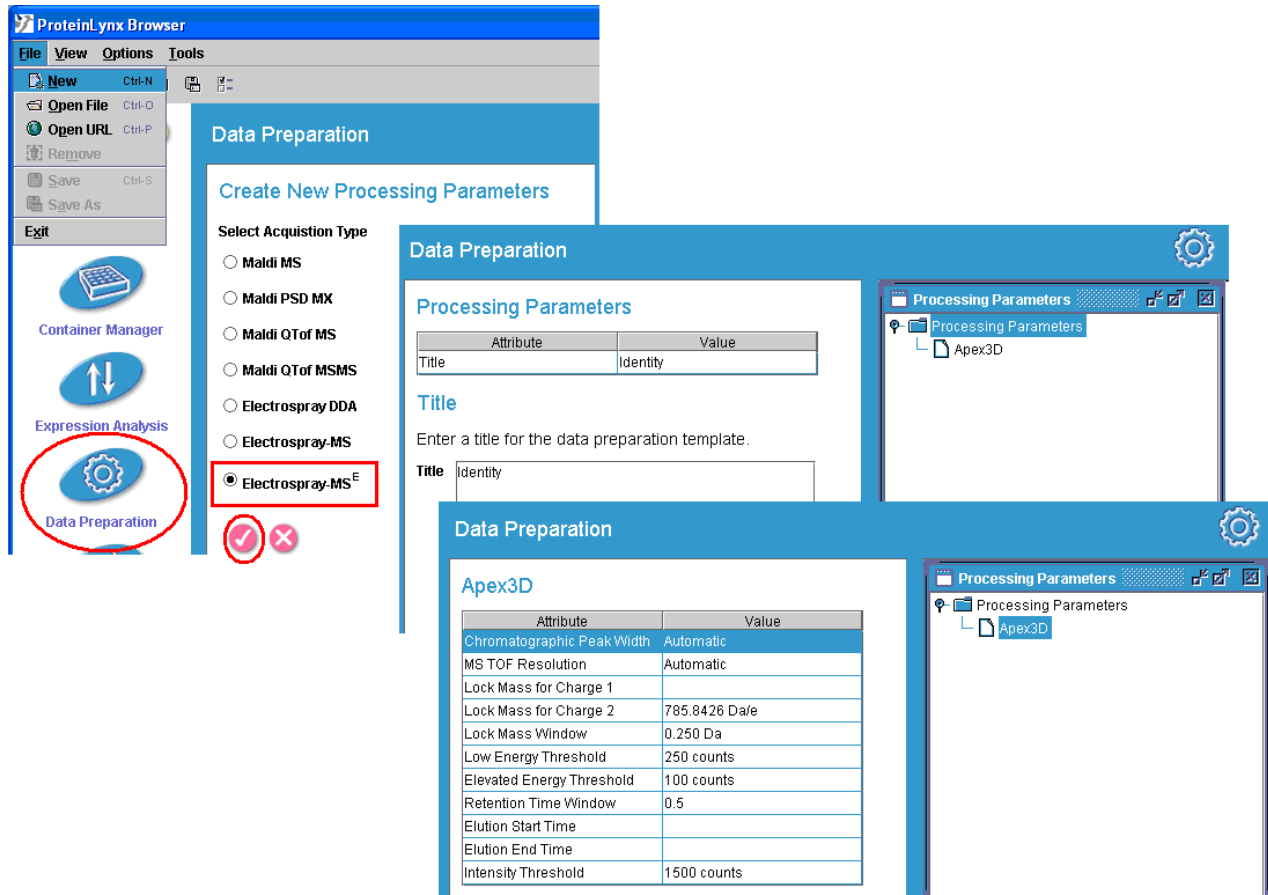

Figure 98 - Processing parameters
14. Click **Data Preparation** to access the Data Preparation window (Figure 98).
20. Ensure the Apex3D parameters are set as shown in Figure 98.